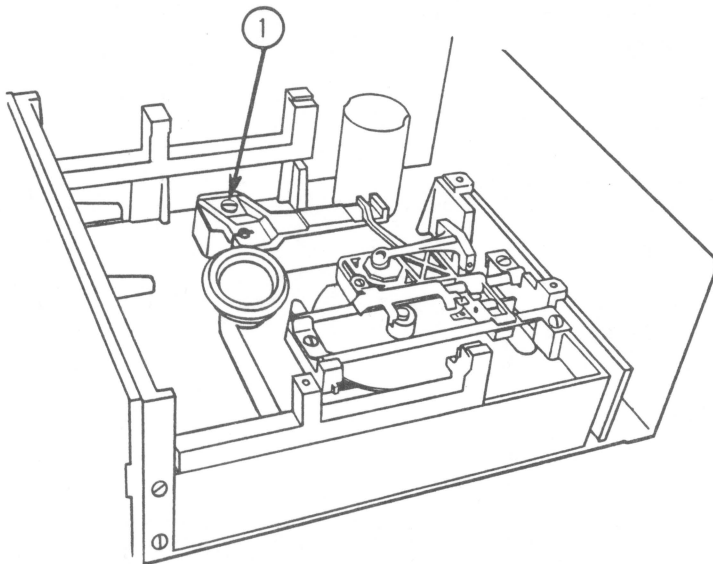

FIGURE 5
2. If tool cannot center properly because stop guide is too far forward, loosen stop guide mounting screw (Figure 5, #1), accessible through small round hole on left side of the tool, and allow guide to move back.